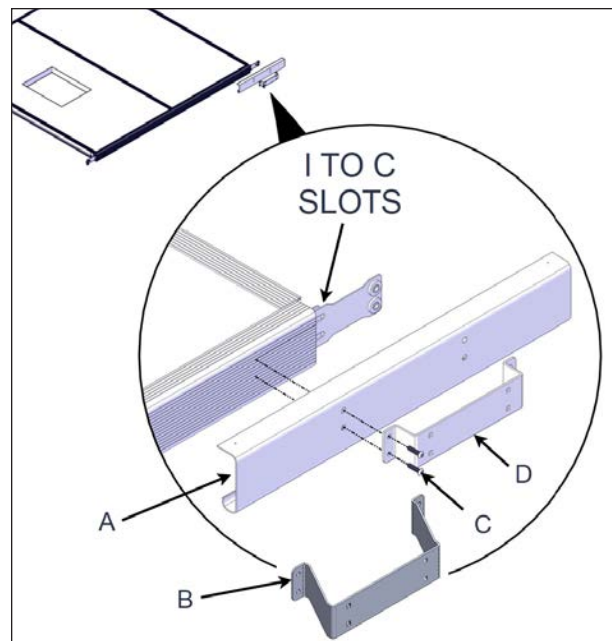

FIGURE 46: POST MOUNT BRACKET INSTALLATION
8. Refer to Figure 46 for this step. Align the holes of the support bracket (item A), the holes of the post mount bracket (item D), and the holes of the long C-channel by hand. Assemble them with two 1/4" x 1" socket head screws. Tighten to a torque value of 5 ft-lb.
For some spas, optional dual side brackets (item B, Figure 46) are needed to mount the cover to the posts. The installation of these brackets is made the same way as for the post mount brackets described in the previous step.